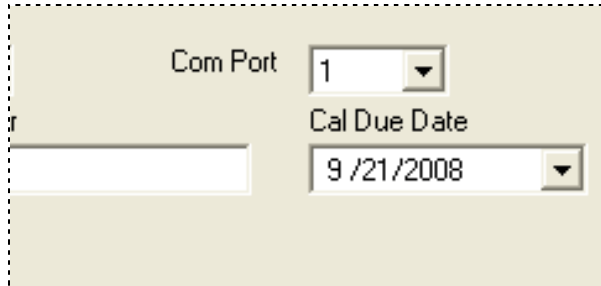

Figure 52 Calibration Due Date
6. The Calibration Due Date (Figure 52) is defaulted to one year from the date on which the instrument was set up. To change the Cal Due Date, see or to request an email alert when the Cal Due Date is imminent, see section 3.9.